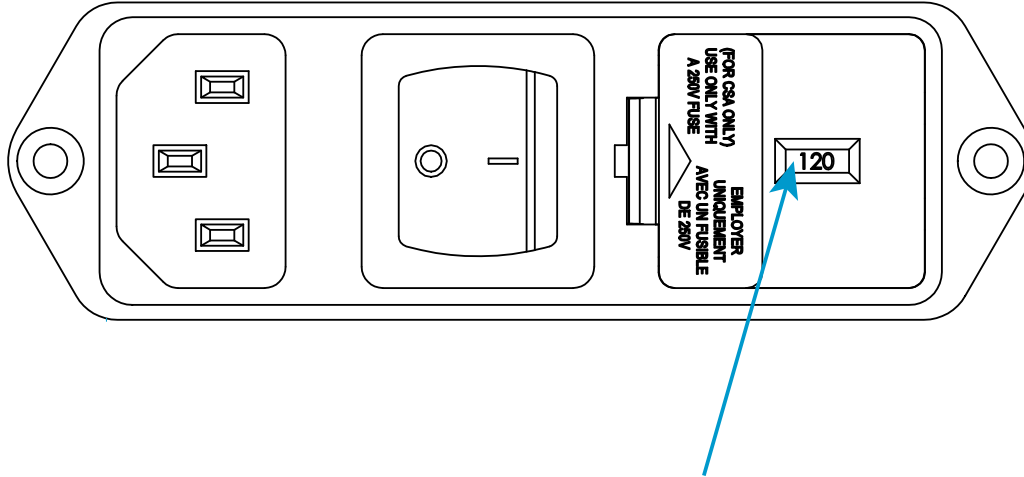

Figure 4. Power input connector with voltage setting
2. Inspect the power input connector and refer to Figure 4 on page 41. The indicated voltage in Figure 4 is 120V.
7. Re-install the fuse holder into the connector. Ensure that the indicator pin now indicates the correct input voltage. See Figure 4 on page 41 for reference.